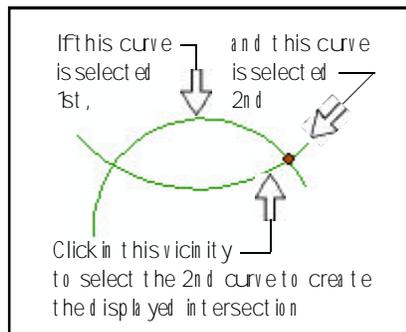

Figure 6 Curve - Curve Intersection
6. **Curve with another curve** yielding two possible intersections. The intersection that is used is the one nearest to the user's click that selected the second curve. See Figure 6.